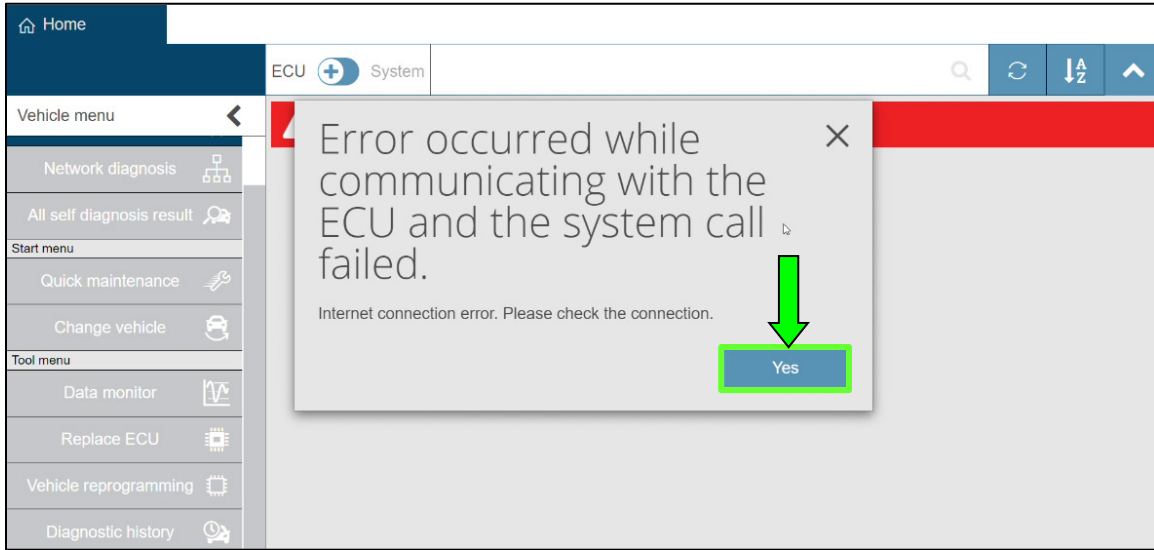

Figure 28
30. If the error shown in Figure 28 is present, select **Yes**, close C4, reopen and allow system call to be performed.